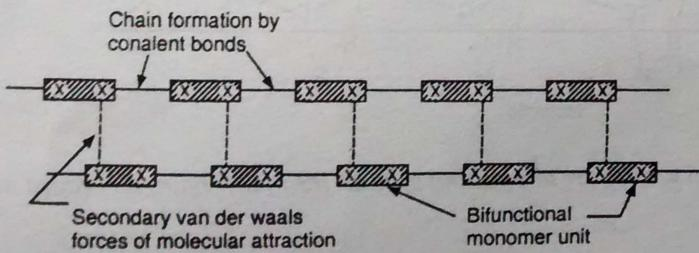

Fig. 1. Linear chain polymer from a bifunctional monomer.
(1) Depending upon the functionality of monomeric units, it is possible to obtain different types of structures. In case of a *bifunctional monomer*, two reactive groups attach side by side to each other forming a **linear or straight-chain molecule**. Linear molecules consist of monomer units linked by primary covalent bonds, but the different chains are held together by secondary van der Waals forces of molecular attraction. This gives the possibility of *chain movement* in one direction (see Fig 1).